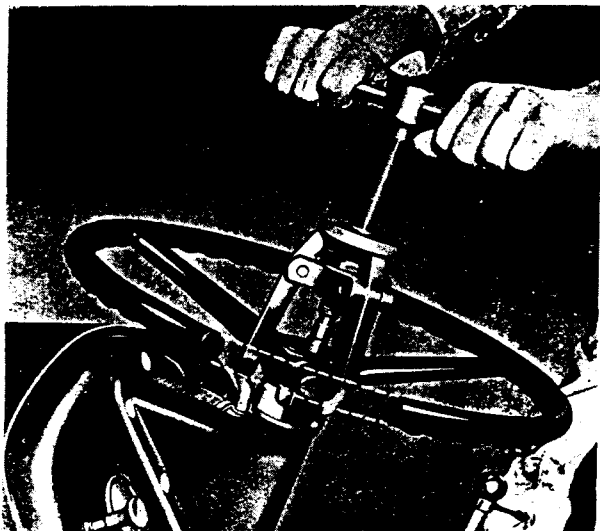

FIG. 3.
1. Using service tool FTB.8. Fig. 3, withdraw steering wheel (16) free from Woodruff key (12) in tapered